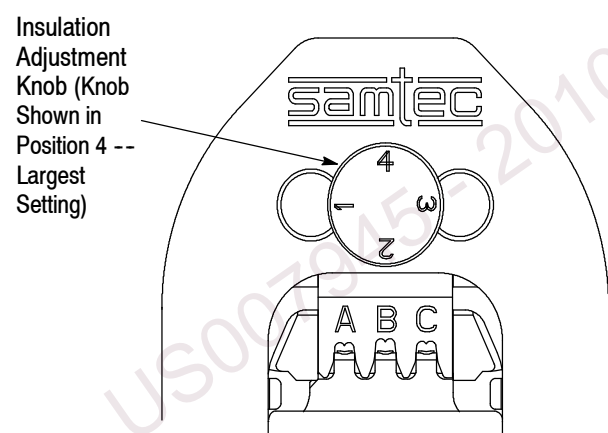

Figure 3
On many tools, the insulation barrel crimp height is regulated by the insulation adjustment knob (Figure 3). The insulation crimp should hold the insulation firmly without cutting into the insulation. To determine the proper insulation crimp setting, test crimp a loose piece contact using the setting which corresponds to the insulation diameter: (1) -- small; (2) and (3) -- medium; or (4) -- large. If the crimped insulation barrel is too tight or loose, change the setting by pulling out and rotating the adjustment knob to the desired setting.